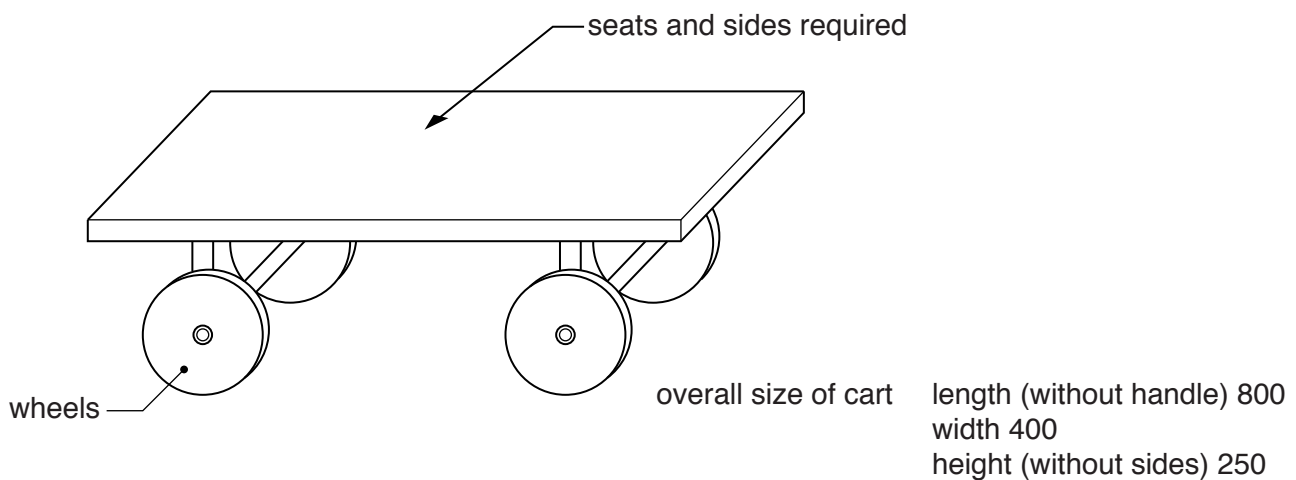

Fig. 7
- 7 Fig. 7 shows an incomplete idea for a cart which will hold two children and be pulled along by an adult.